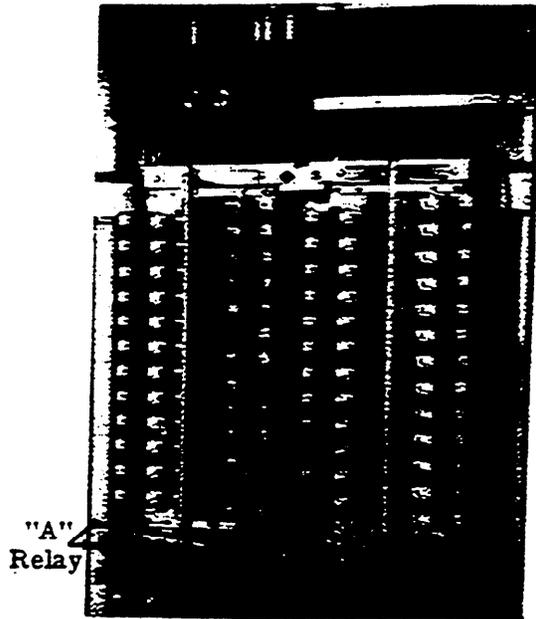

Figure 10. View of a Self-Aligning Plunger Lineswitch Bay to Show Master Switch A Relay and Alarm Lamps.
3.12 Manually hold A relay of master switch operated until alarm is heard (See Fig. 10.) After alarm is heard, check each group in line-up in the following manner. Hold A relay of initial group, push up A relay of next group, release A relay in initial group. Alarm should be continuously heard. Repeat above procedure for each line-up of self-aligning plunger lineswitch groups.
3.13 Lamp (blue) located at top of bay lights (Fig. 10), floor pilot lamp (white) lights, and office alarm frame panel pilot lamp (blue) lights. office chime is heard (interrupted 60 IPM). Stop alarm, release A relay.